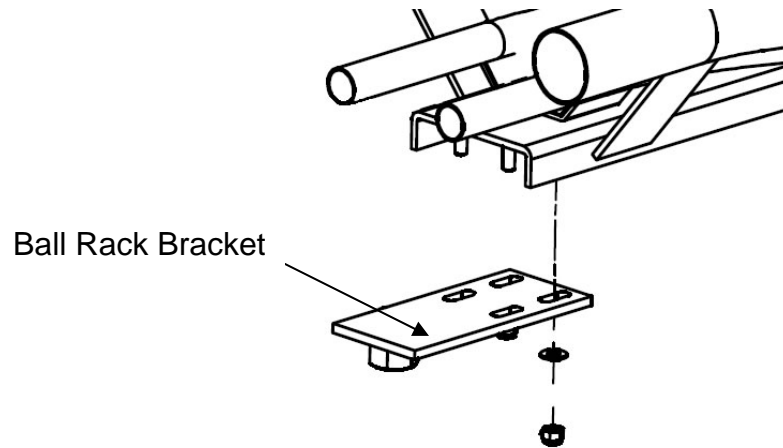

Figure 14, Ball Rack Bracket Installation
1. Attach the Ball Rack Bracket to the underside of the Ball Rack as shown below in Figure 14.